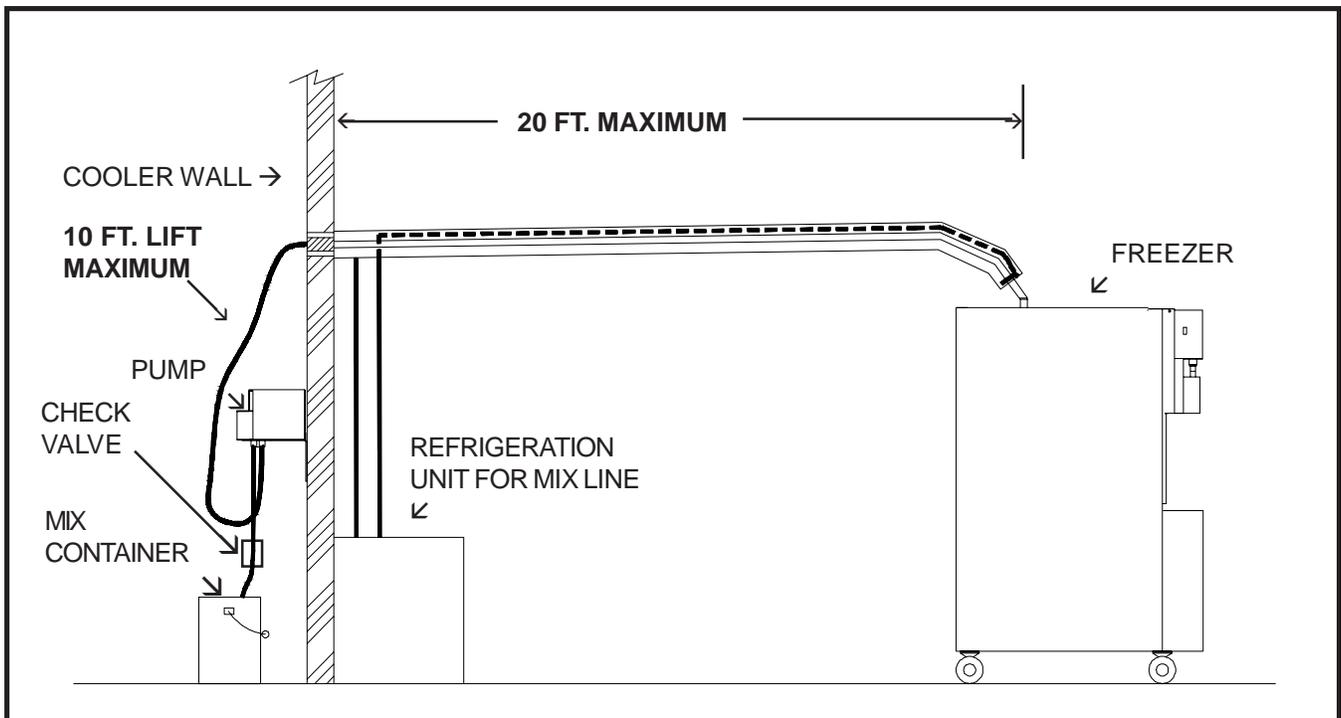

Figure 2
- A. This unit (remote pump) must be installed with a "NSF" listed refrigerated mix transfer line. The mix transfer line must be pitched to cooler, with no sags or low points, to allow complete drainage (Fig. 2).
A. Follow the steps below to install the mix pump in an upright position on the wall using optional pump mounting kit. Allow clearance for a mix container under pump. See Figure 2.
1. Mount by locating four (4) hole centers on cooler wall using mounting bracket as template.